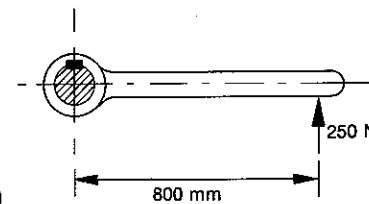

Fig. 5.10
- 5.9 The arm shown in Figure 5.10 is keyed to a 200 mm diameter shaft. Assuming that the turning effort is transmitted by the key only, determine the force on the key if the load at the end of the arm is 250 N.